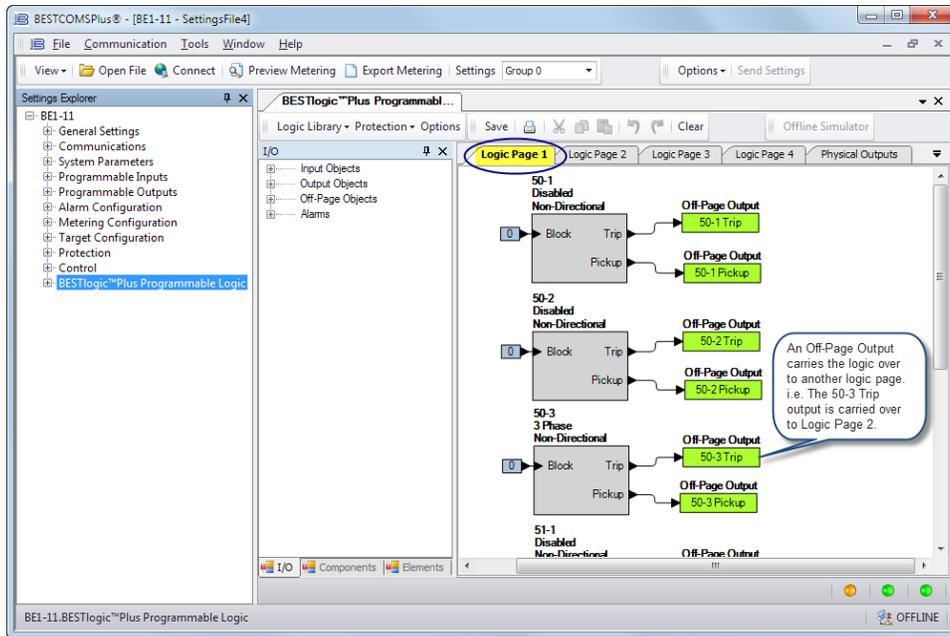

Figure 12. BESTlogicPlus Logic Page 1
B, Dec-15	<ul style="list-style-type: none"> Updated Figure 12 to show Primary A pickup setting
Step 9: In the Settings Explorer, click BESTlogicPlus Programmable Logic to open the logic diagram. Click the Logic Page 1 tab. See Figure 12. Examine the 50-3 element. The Logic 0 connected to the Block input indicates that the 50-3 element is never blocked.